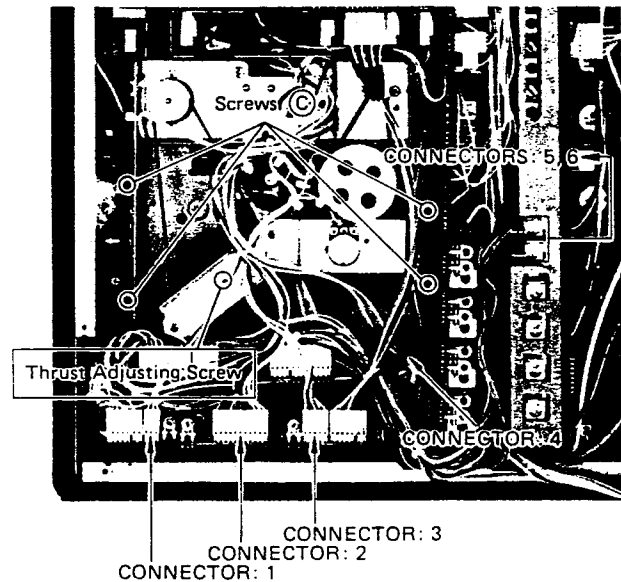

Fig. 6-3-2
- 2) If the mechanism assembly must be taken out completely, other connectors (1)-(6) should be disconnected and the mechanism wire harness will be disconnected from the main unit. Refer to Fig. 6-3-2.
Turn the thrust adjusting screw (plastic); Refer to Fig. 6-3-2. Provided on the bottom of the flywheel so that thrust of the capstan shaft is within 0.1 mm to 0.2 mm.